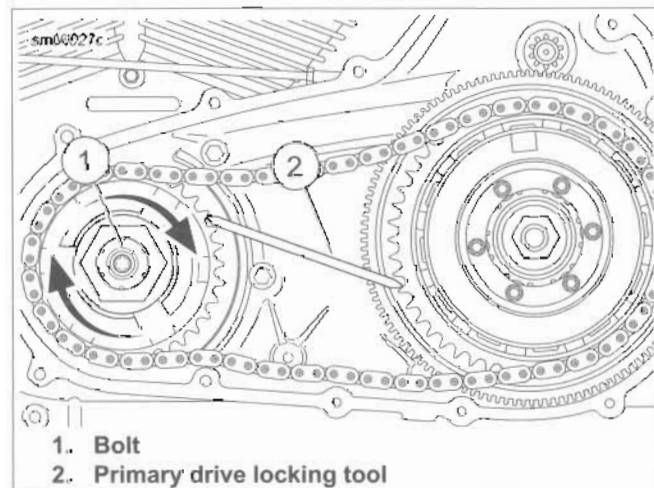

Figure 5-12. Installing Engine Compensating Sprocket Bolt
See Figure 5-12. Make sure the PRIMARY DRIVE LOCKING TOOL (Part No. HD-47977) is placed between the teeth of the engine and clutch sprockets as shown, when tightening the compensating sprocket bolt (1).